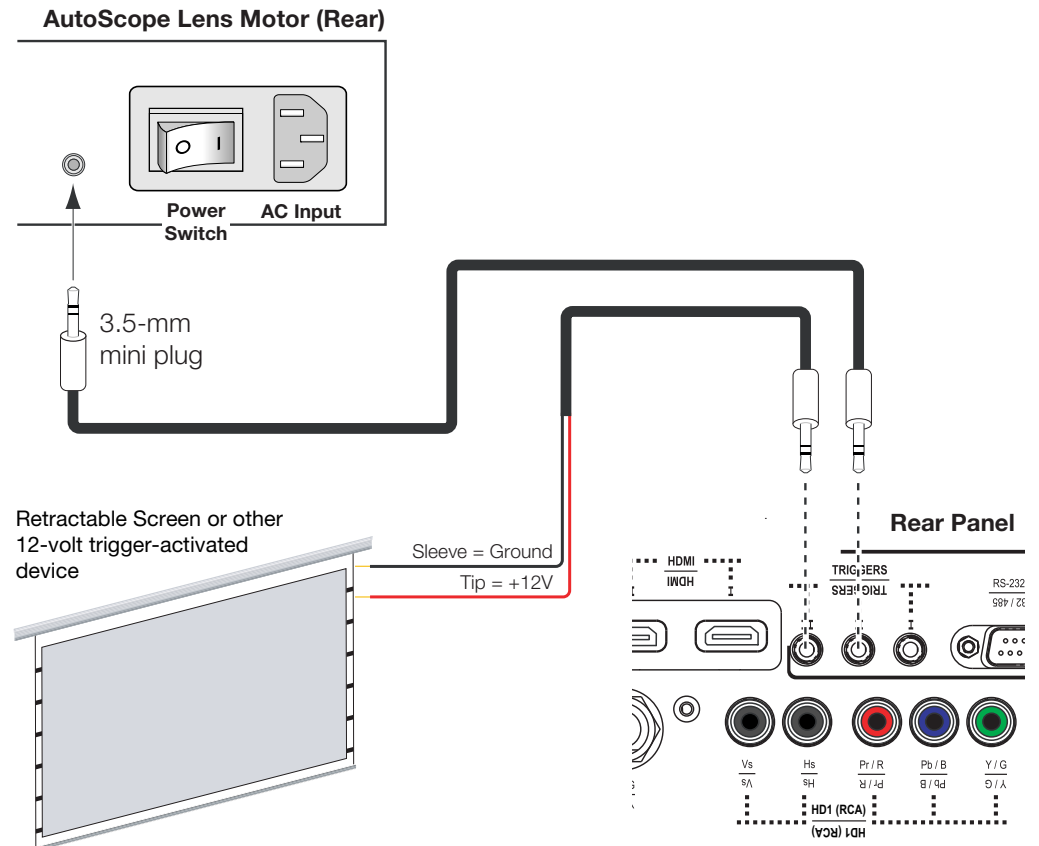

Figure 3-16. 12-volt Trigger Output Connections
If your VX-22i is equipped with a CineWide with AutoScope system, connect the AutoScope lens motor to a 12-volt trigger output on the VX-22i; see Figure 3-16.
2. If this is an AutoScope-equipped projector, turn on the main power switch at the rear of the AutoScope lens motor. The lens motor power switch is located next to the AC input (see Figure 3-16).